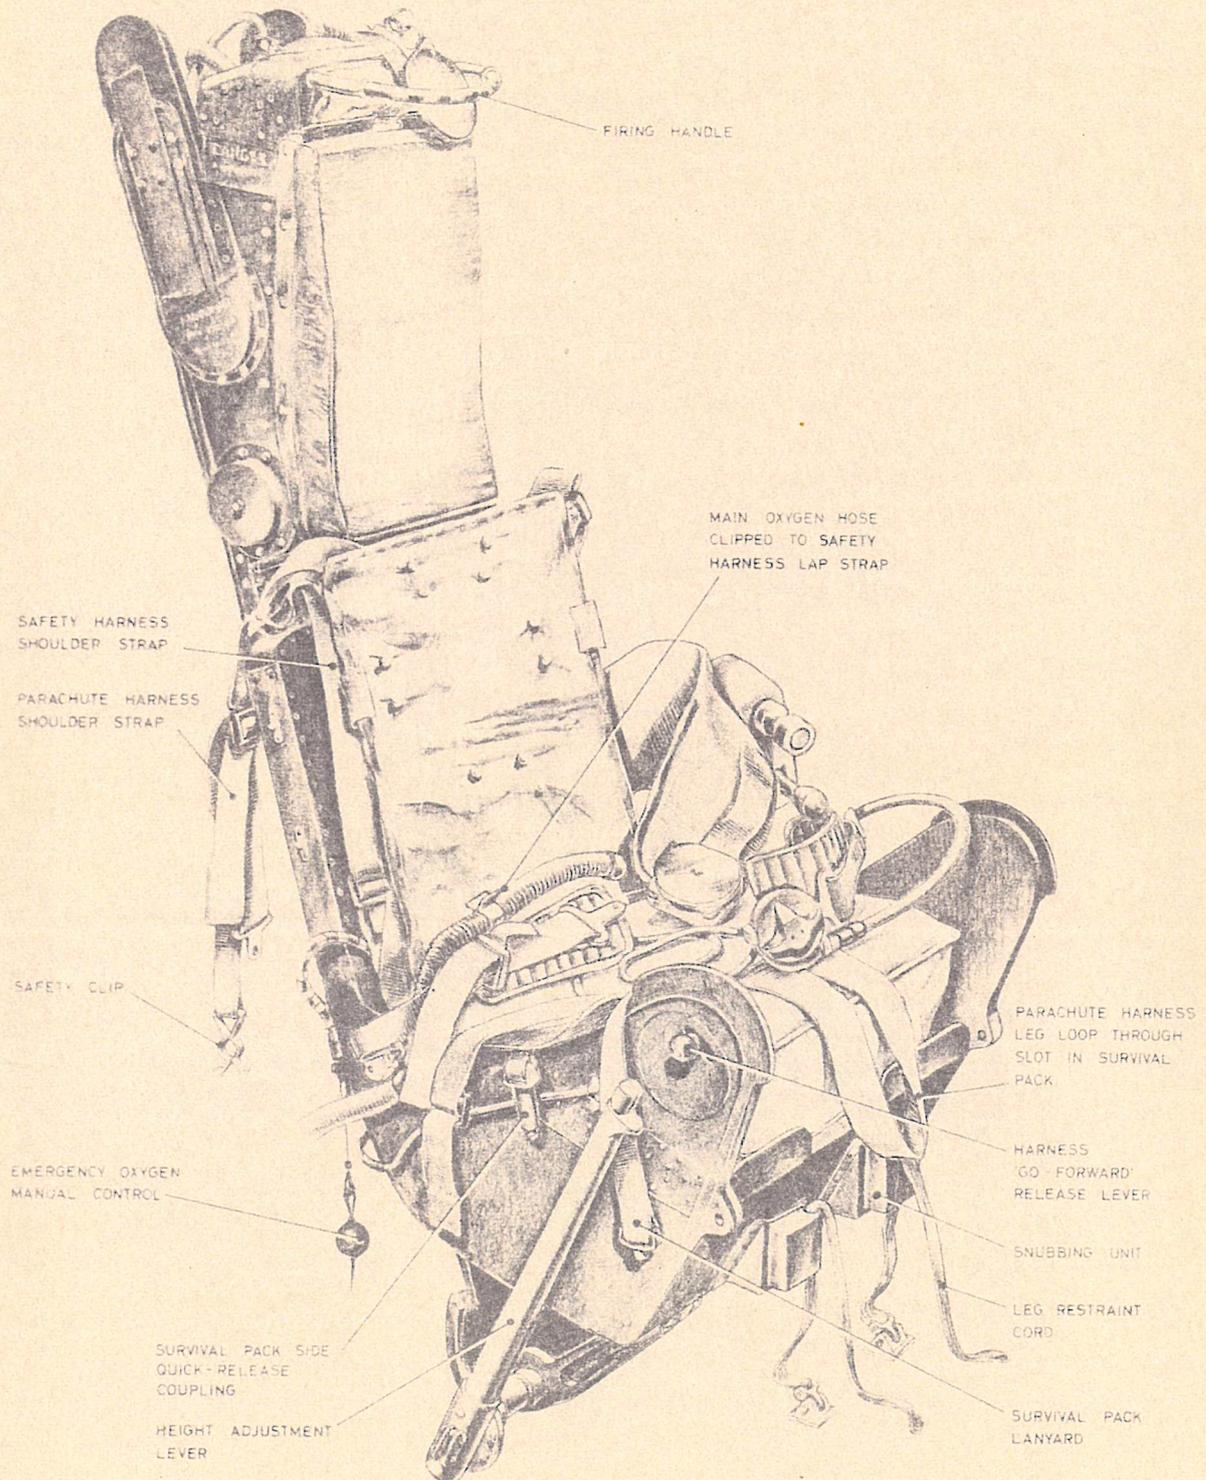

Fig. 1 The seat equipped (1)
18. The following procedure is to be used when equipping the seat; refer to fig. 1 and 2 for detail as necessary: -